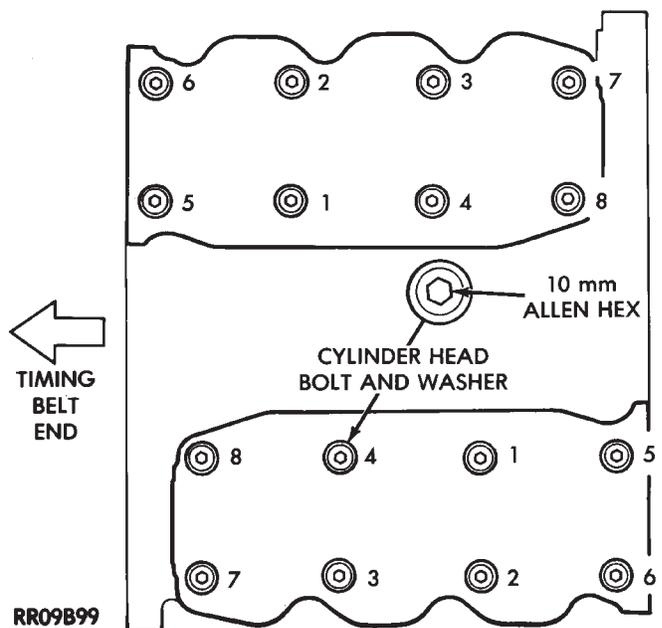

Fig. 16 Cylinder Head Bolt Tightening Sequence
- (1) Clean surfaces of head and block, install head gasket over locating dowels.
- (2) Install head on locating dowels.
- (3) Install 10mm allen hex head bolts with washers.
- (4) Tighten bolts in the order shown in (Fig. 16). When tightening the cylinder head bolts, tighten gradually, working in two or three steps and finally tighten to specified torque of 108 N·m (80 ft. lbs.).